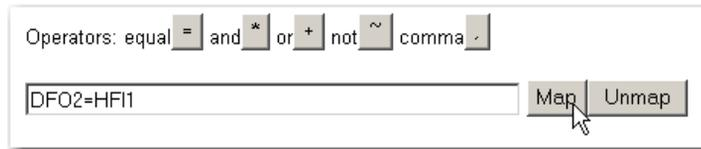

FIG. 344 ASSIGNMENT STATEMENT MAPPING NET WEIGHT (HF11) TO DEVICENET FLOAT OUT WORD 2 (DFO2)
- Step 7. The Net Weight address appears on the right side of the Assignment Statement. (See Fig. 344)